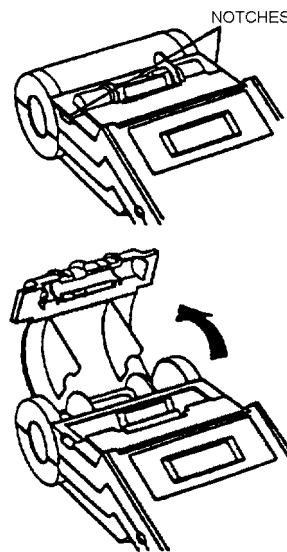

Figure 15. Printer Cover
a. Release cover of printer by placing fingers in notch under cover on both sides of printer and pull-up. Lay cover back until it rests on hinges (Figure 15).